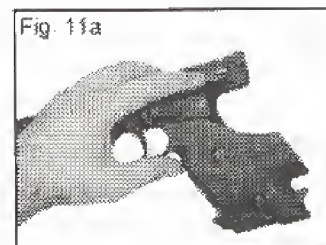

Fig. 11a
**WARNING** Your pistol is now loaded and ready to fire. IMMEDIATELY MAKE SURE THE SAFETY LEVER IS DOWN OR IN THE SAFE POSITION. At this point the safety is on and the gun is cocked, the cocking indicator red dot is exposed at this point. (See Fig: 11a)